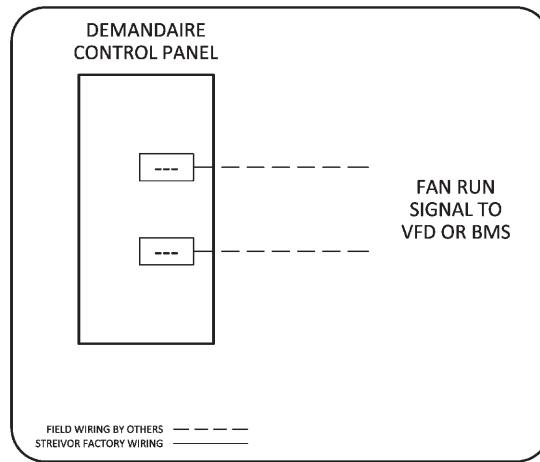

FIGURE 5: Optional: Run Signals (Fans)
- Connect the terminal blocks in the control panel designated for fan run signals (dry contacts) to the appropriate external destination (*Figure 5*) (i.e. VFDs, BMS, dampers, etc.)